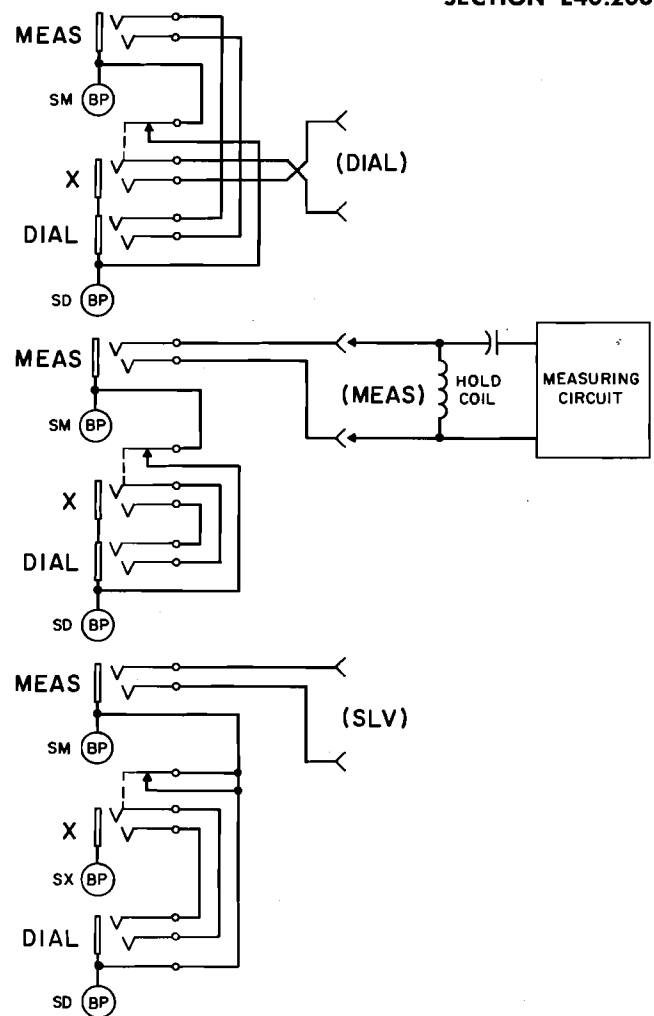

Fig. 3 - Schematic Circuit of the DIAL-MEAS-SLV Key
3.06 The circuit of the 23A set for the three positions of the DIAL-MEAS-SLV key is shown in schematic form in Fig. 3.